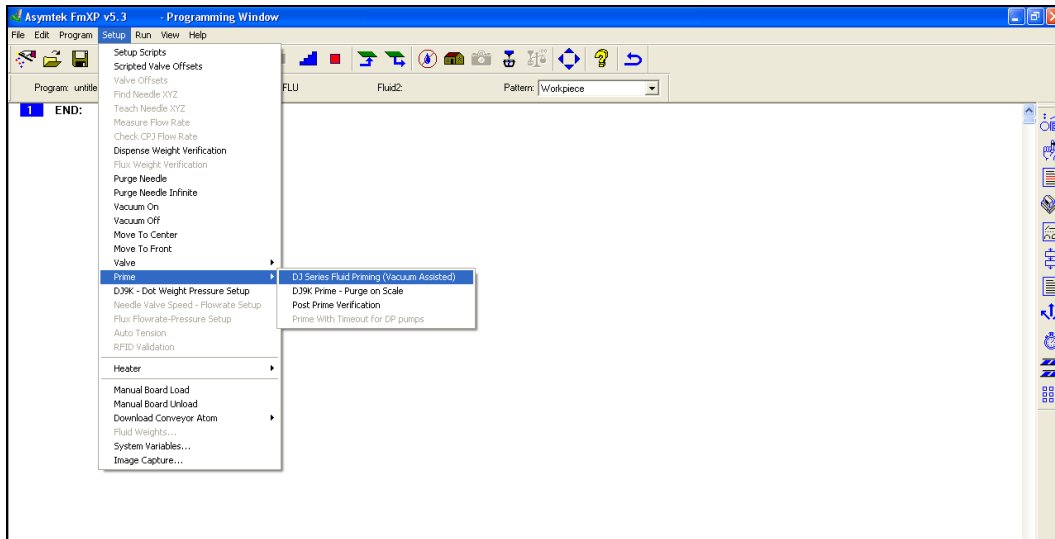

Figure 2-13 Fluidmove Programming Window - Setup Menu
- ▶ The Fluidmove Programming Window opens (Figure 2-13).